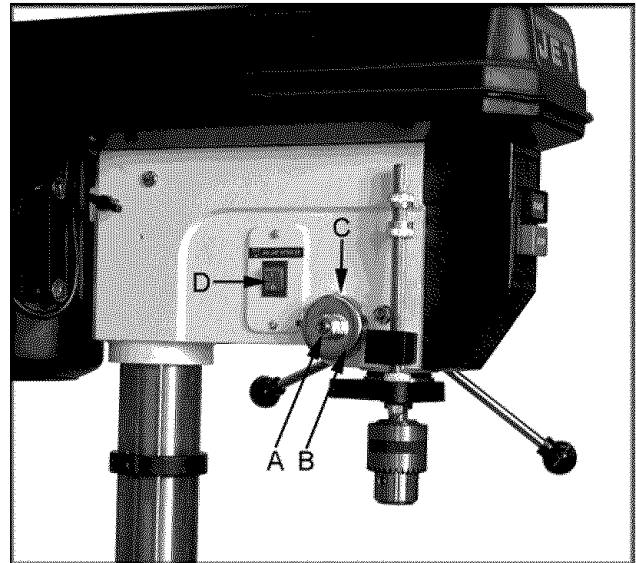

Fig. 9
2. Loosen two jam nuts (A, Fig. 9). **Do not remove.**
3. Firmly hold the coil spring cover (B, Fig. 9).
4. Pull out the cover and rotate until the pin (C, Fig. 9) on the return spring plate engages the next notch in the coil spring cover. Turn the cover clockwise to decrease tension and counter-clockwise to increase tension.
5. Tighten two jam nuts (A, Fig. 9). Do not over-tighten. Nuts should not contact the housing when tight. The jam nuts should be tightened against each other.
Install a light bulb, no larger than 60 watts into the socket accessed from beneath the head. The light bulb is controlled by the rocker switch (D, Fig. 9).